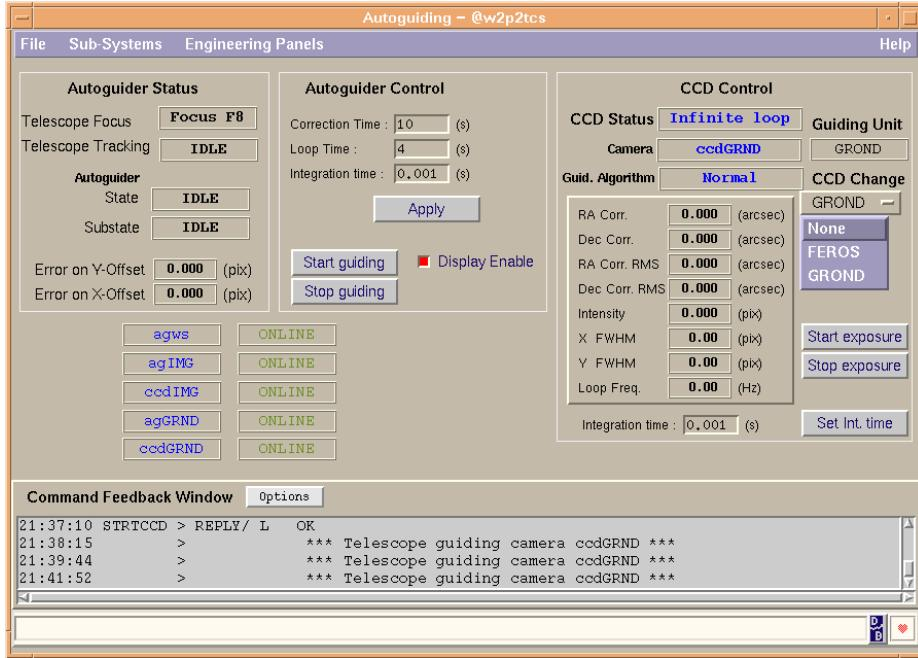

Figure 2.5: Switching between **GROND** and **FEROS** guide camera.
- a. select GROND below CCD change (see Fig. 2.5, p. 32)
- a. select FEROS below CCD change (see Fig. 2.5, p. 32)
Check that the **GROND** and **FEROS** guide cameras work by switching between them on the **AG** window (see Fig. 2.5, p. 32). The switching should set the camera in CCD status Infinite loop. It may be necessary to click on Start exposure after switching to obtain this status. If status is Fail, the camera must be restarted (see Sect. 10.2, p. 67).